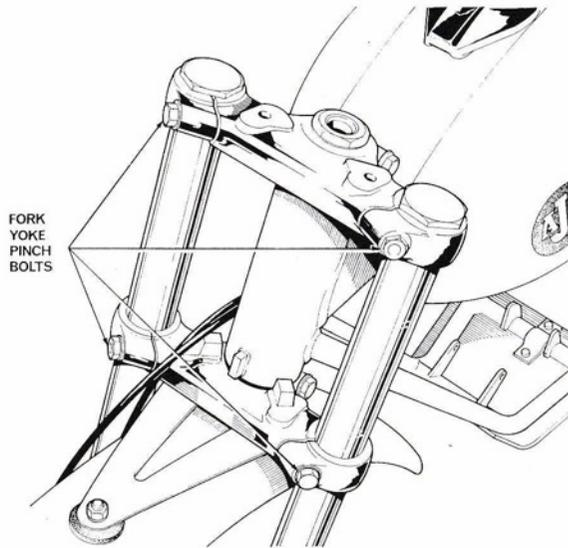

Fig. 47 Fork yoke pinch bolts.
- 8 Slacken the pinch bolts on the top and bottom yokes (see Fig. 47).